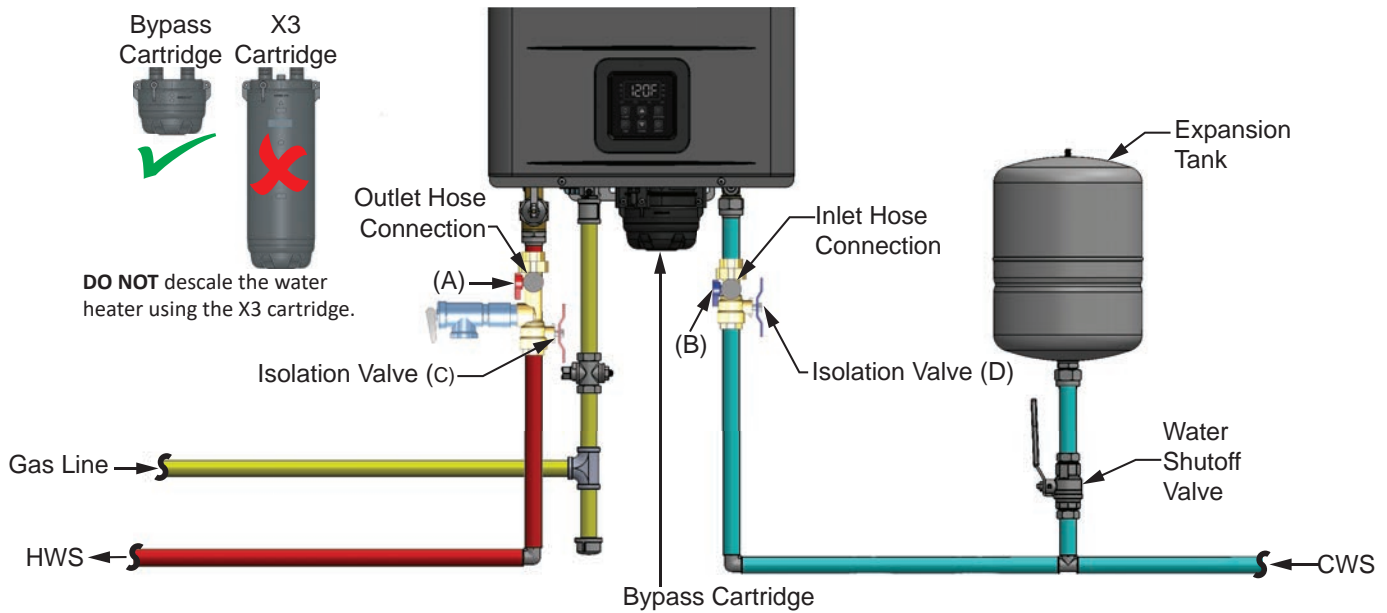

Figure 14 - UIM display
- Washing machine hoses (2)
- Water heater isolation valve kits, installed on both the cold water inlet and hot water outlet of the water heater X3 Bypass Cartridge (See Figure 14)
1. Close the isolation valves (C & D) to stop the main inlet/outlet flow of water to the house. See Figure 14.